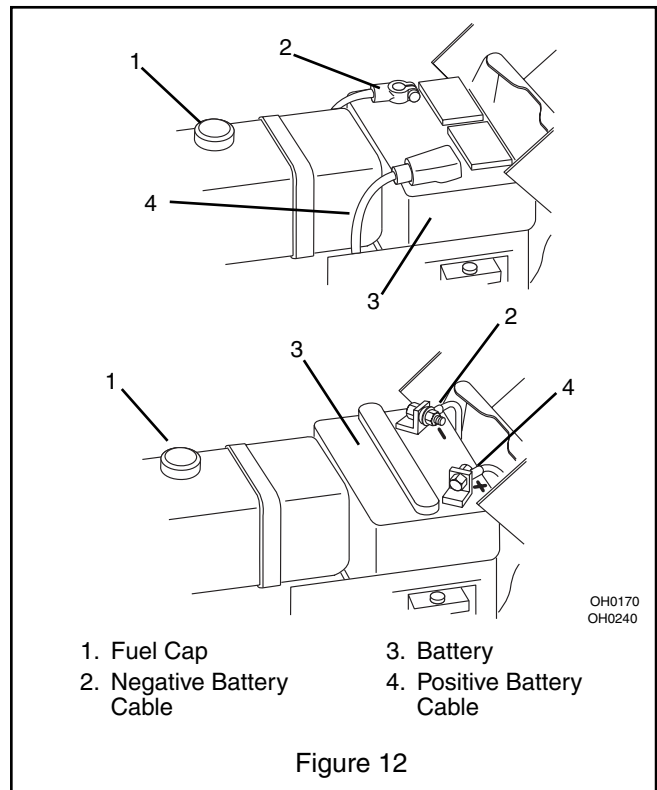

Figure 12
2. Disconnect negative (-) cable first, then positive (+) cable (Figure 12).